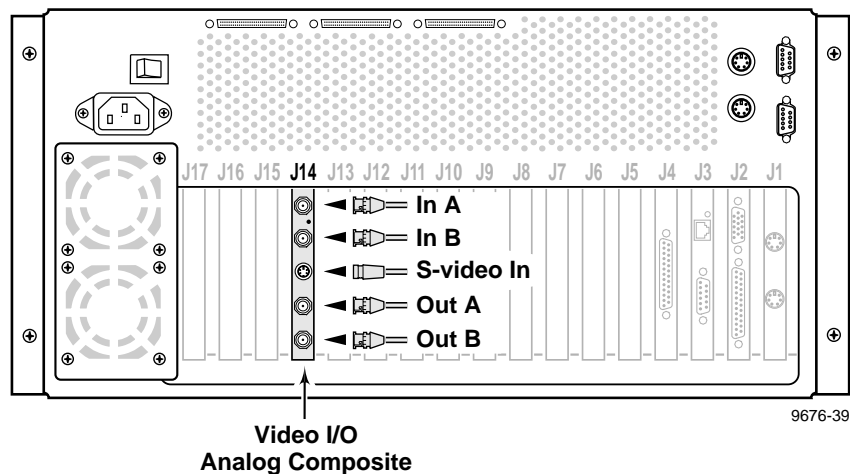

Figure 2-11. Analog Composite I/O Cable Connections Example
The Profile Video File Server may include one or more an Analog Composite Video In/Output boards. Refer to Tables 1-2, 1-3, and 1-4 on pages 1-8, 1-9, and 1-10, to determine the slot location of this board in your system. Figure 2-11 shows analog composite video cable connections for a typical location, slot J14.
The Analog Composite I/O board accepts two composite analog video inputs, and provides two composite analog video outputs. The board is also equipped with an S-Video connector, which allows video input to the Profile system directly from a source such as a video cassette recorder. However, the S-Video device takes the place of one of the inputs (either In A or In B). The board provides time base correction for any one input. If the Analog Composite Video I/O board is installed, refer to Figure 2-11 for an example and:
2. Connect analog composite input and output cables to the Analog Composite I/O board. See Figure 2-11 for an example.